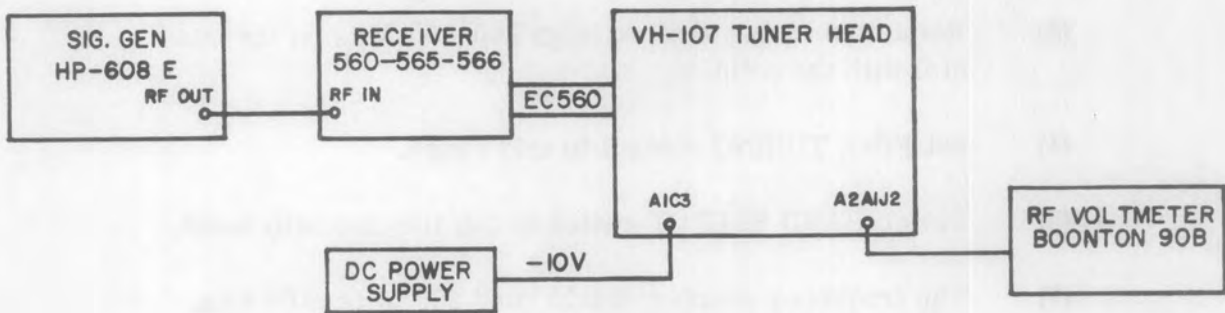

Figure 4-4. Equipment Setup; AGC Range Check 4.6.7
- (1) Connect the equipment as shown in Figure 4-4.
- (2) Set the signal generator to 400 MHz. Select the 200-400 MHz band on the tuner head.
- (3) Set the output of the signal generator for -10 dBm on the RF voltmeter.
- (4) Measure and note the RF gain with the RF voltmeter at the tuner head output A1J2 at 400 MHz.
- (5) Insert a -10 Vdc level at A1C3 AGC and again measure the gain at the tuner head output. It should be 30.0 dB, minimum.